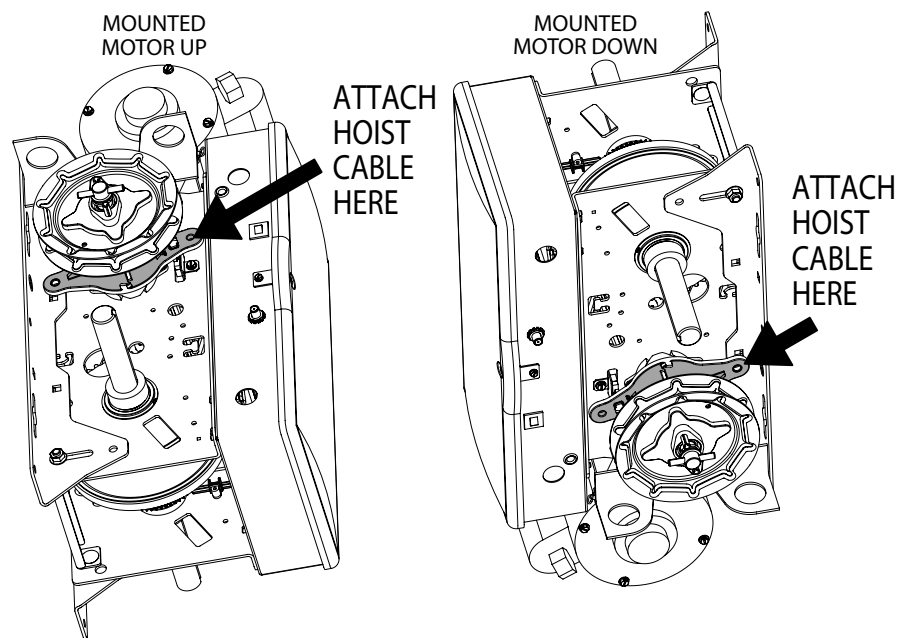

Figure 28
- With operator installed motor DOWN, attach hoist cable to cam arm hole closest to mounting plate. See Figure 28
- With operator installed motor UP, attach hoist cable to cam arm hole closest to electric box. See Figure 28